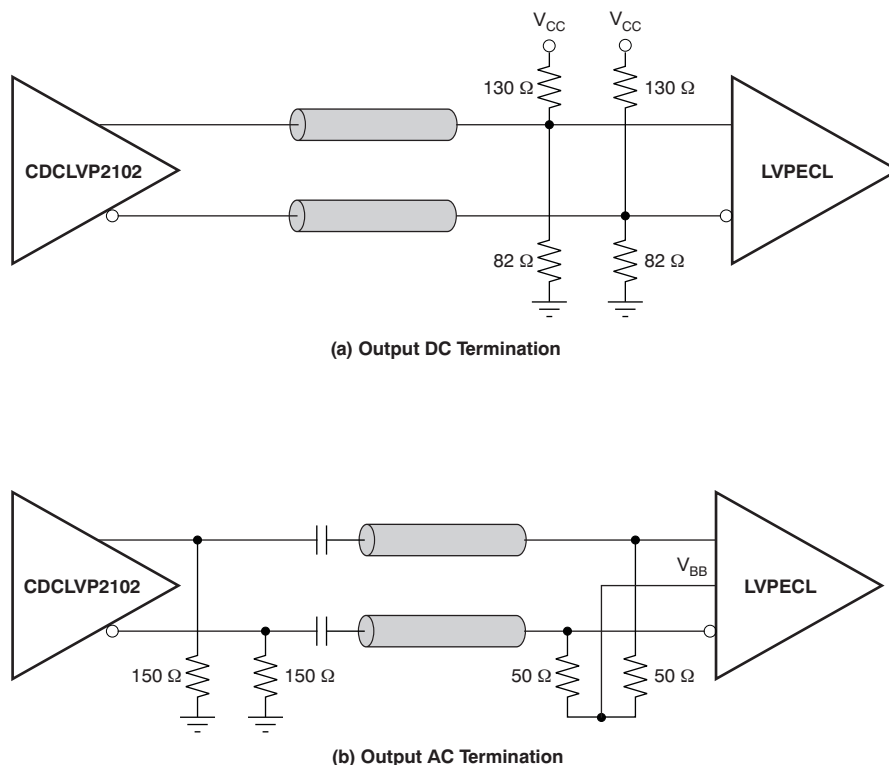

Figure 13. LVPECL Output DC and AC Termination for $V_{CC} = 3.3\text{ V}$
The CDCLVP2102 is an open emitter for LVPECL outputs. Therefore, proper biasing and termination are required to ensure correct operation of the device and to minimize signal integrity. The proper termination for LVPECL outputs is a $50\ \Omega$ to $(V_{CC} - 2)$ V, but this direct-coupled (DC) voltage is not readily available on PCB. Therefore, a Thevenin equivalent circuit is worked out for the LVPECL termination in both DC- and AC-coupled configurations. These configurations are shown in Figure 12 (a and b) for $V_{CC} = 2.5$ V and Figure 13 (a and b) for $V_{CC} = 3.3$ V, respectively. TI recommends placing all resistive components close to either the driver end or the receiver end. If the supply voltage for the driver and receiver is different, AC coupling is required.
The CDCLVP2102 is an open emitter for LVPECL outputs. Therefore, proper biasing and termination are required to ensure correct operation of the device and to minimize signal integrity. The proper termination for LVPECL outputs is a $50\ \Omega$ to $(V_{CC} - 2)$ V, but this DC voltage is not readily available on PCB. Therefore, a Thevenin equivalent circuit is worked out for the LVPECL termination in both DC- and AC-coupled configurations. These configurations are shown in Figure 12 a and b for $V_{CC} = 2.5$ V and Figure 13 a and b for $V_{CC} = 3.3$ V, respectively. TI recommends placing all resistive components close to either the driver end or the receiver end. If the supply voltage for the driver and receiver is different, AC coupling is required.